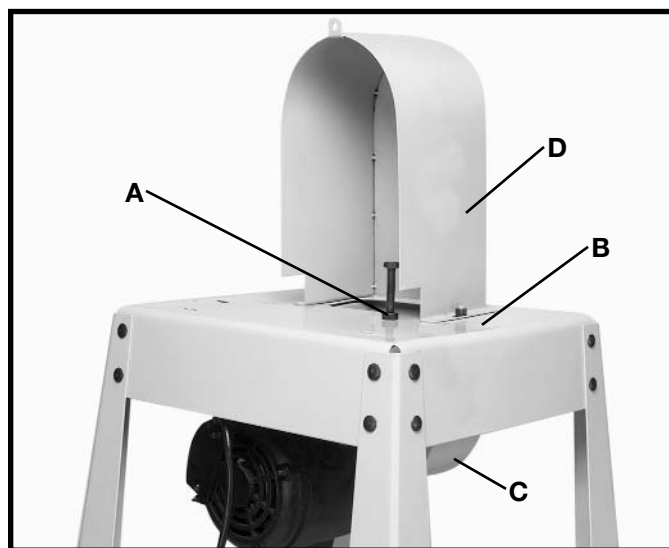

Fig. 16
26. Thread the M8x1.25x80mm hex head screw into the hole (A) Fig. 16, in the top of the stand.
28. Insert the two threaded studs on the lower pulley guard (C) Fig 16, through the two holes in the top of the stand (B).
29. Align the two holes in the upper pulley guard (D) Fig. 16, with the two threaded studs on the lower pulley guard (C). Place the upper pulley guard on the studs of the lower pulley guard.